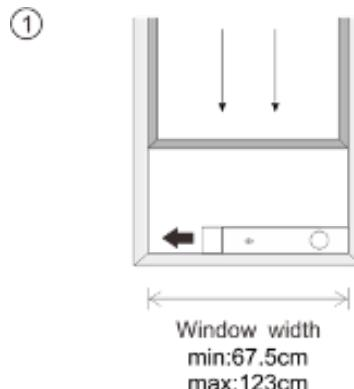

Fig.5a
The window slider kit should be installed in the "horizontal" or "vertical" way. As shown in Fig.5a and Fig.5b, check the min. and max. size of the window before the installation.
1. Install the window kit on the window (Fig.5a, Fig.5b).